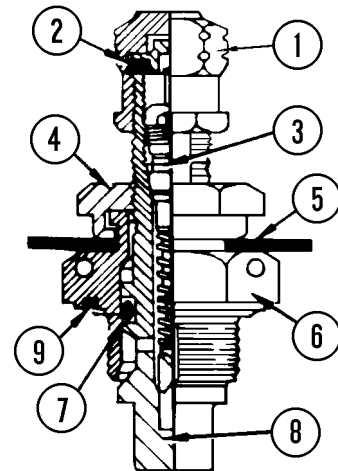

FIGURE 3-2. CHARGING VALVE
2. Remove charging valve cap, (1, Figure 3-2) loosen small hex (4) on charging valve and turn counter-clockwise three full turns to unseat valve seal. Connect suspension charging kit.